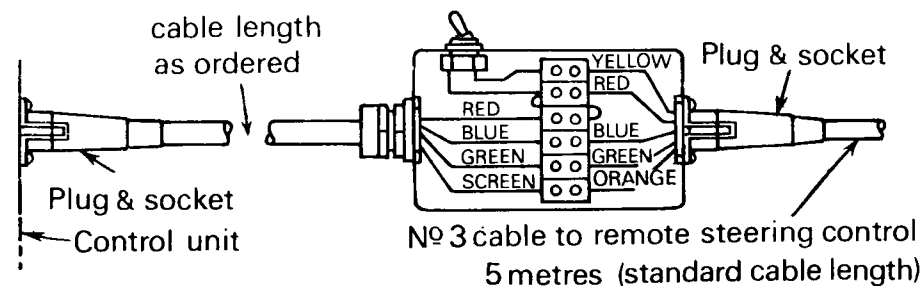

FIG.7
- 3.4 If a 'hold on switch' or extra cable are provided for the Remote Steering Control a special box fitted with 'hold on switch' is supplied and is connected as shown in Figure 7.